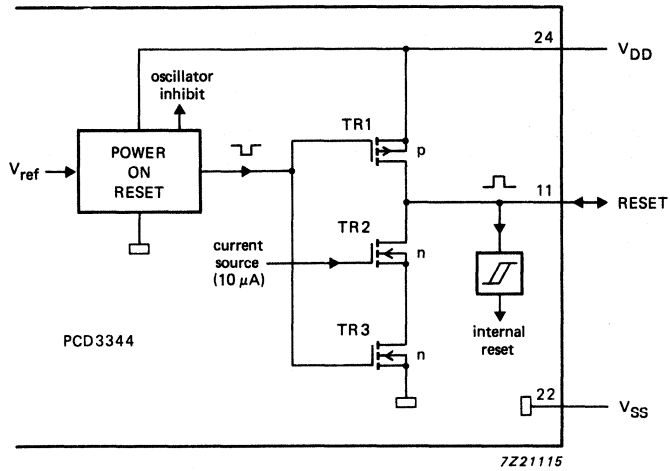

Fig. 18 Power-on reset configuration.
1. If V_{DD} has a fast rise time, i.e. V_{DD} reaches its minimum value before the RESET signal finishes (t_D), then no additional circuit is required (see Figs 18 and 19). Note that the first instruction is executed after the oscillator start-up time plus 1866 clock periods.